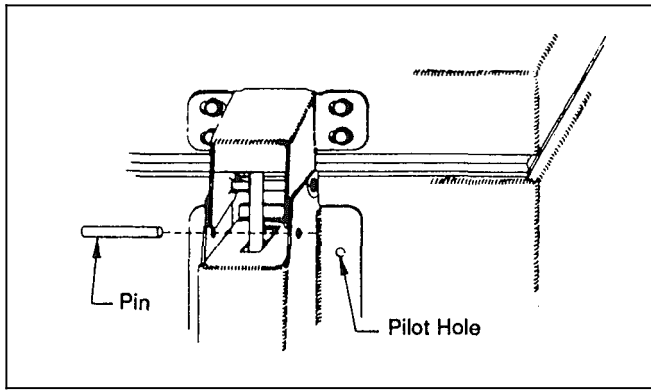

Figure B15 - Hinge Lock Pin
2. Insert a pin into the hinge holes as shown in Figure B15. A small Phillips type screwdriver or 16D nail work well as pins.